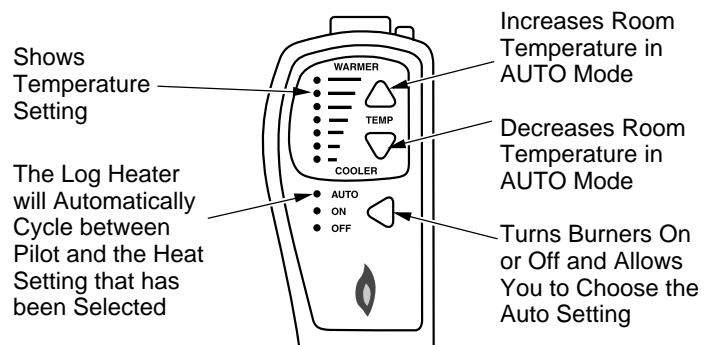

Figure 54 - Thermostat Hand-Held Remote Control Unit Selections ([C]GHRCT[A] Series Only)
- 2b. Press the AUTO/ON/OFF button on the hand-held remote control (see Figure 54). The lights to the left of the button will show AUTO, ON, or OFF.